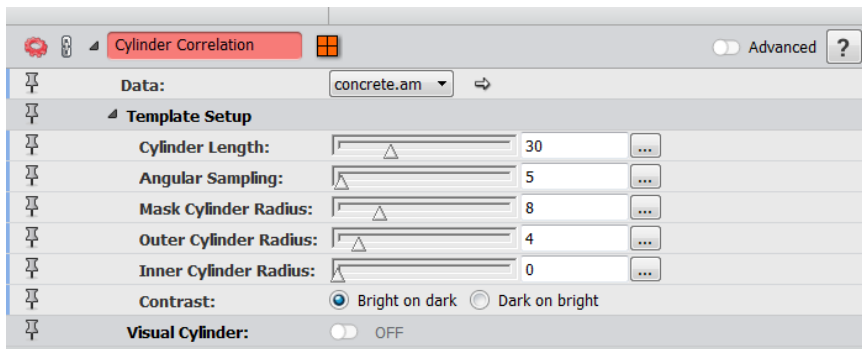

Figure 12.5: Default Parameter Settings of the *Cylinder Correlation* Module
3. Set the parameters as shown in Figure 12.5.